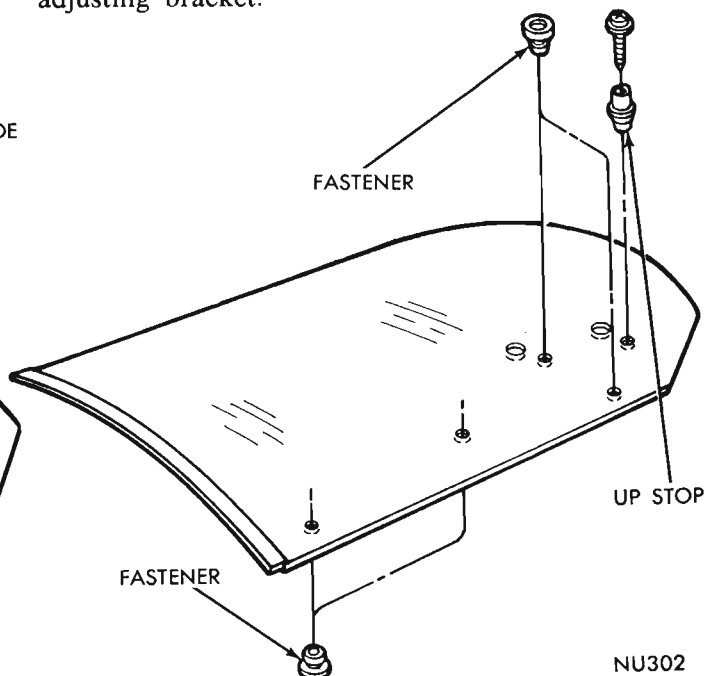

Fig. 5 - Glass Assembly
(5) Remove front track from glass guide and guide from glass (Fig. 5).
(6) Remove fasteners and up stop from glass (Fig. 5).
(1) Place glass on table with outside of glass facing upward.
(2) Install fasteners and up-stop in glass (Fig. 5).
(3) Position track guide over fasteners and secure with screw.
(4) Slide front track lower end flanges through guide grooves.
(5) With regulator arms in the full down position insert door glass and front track assembly into door.
(6) Allow track to slide down to bottom of door panel.
(7) After up-stop bumper has cleared through glass opening, engage glass rear frame in rear channel run and lower glass to bumper of lower adjusting bracket.